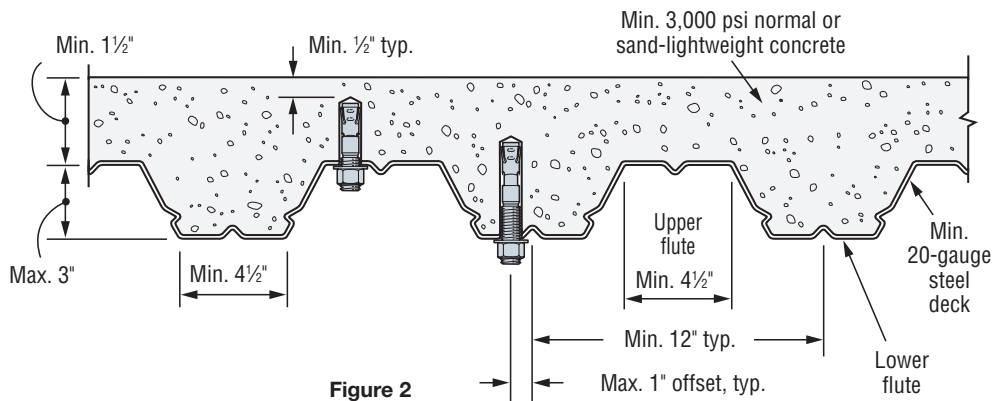

Figure 2
- The steel deck profile must comply with the configuration in Figure 2 below, and have a minimum base-steel thickness of 0.035 inch (20 gauge). Steel must comply with ASTM A 653/A 653M SS Grade 33 with minimum yield strength of 33,000 psi. Concrete compressive strength shall be 3,000 psi minimum.